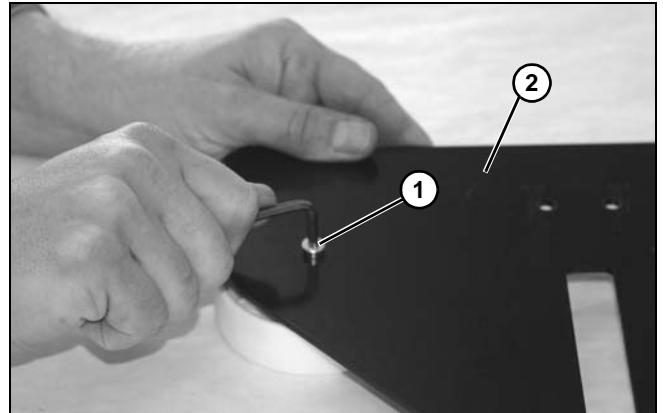

Figure 126
8. Remove socket head screw (**Figure 126, item 1**) on weighted take-up plate assembly (**Figure 126, item 2**).